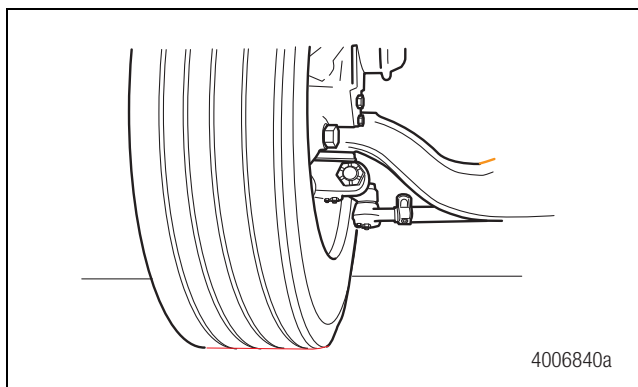

Figure 9.5
2. Verify that the tires touch the ground. Do not raise the vehicle. The full weight of the vehicle must be on the axle assembly. Figure 9.5.